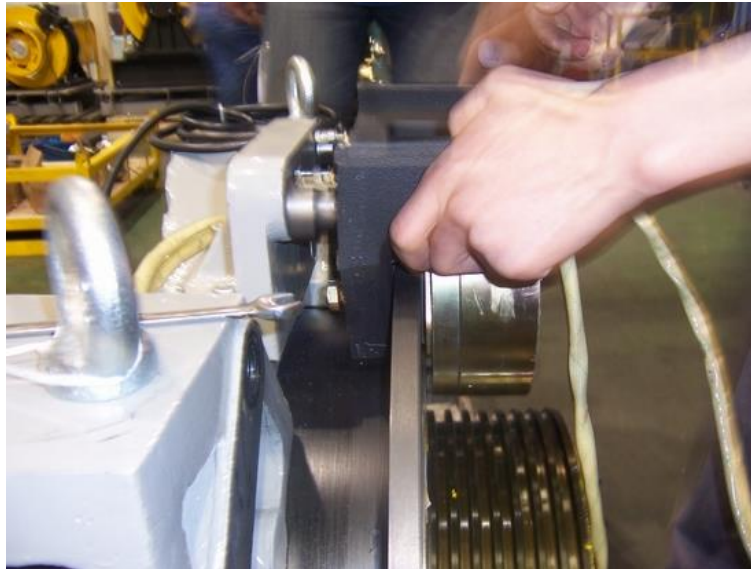

Figure 35: Rotate brake onto brake sheave
3. Install the brake assembly on guide pole 1 and rotate the brake onto brake sheave. (Using vise grips to manually pick the brakes) See Figure 35.